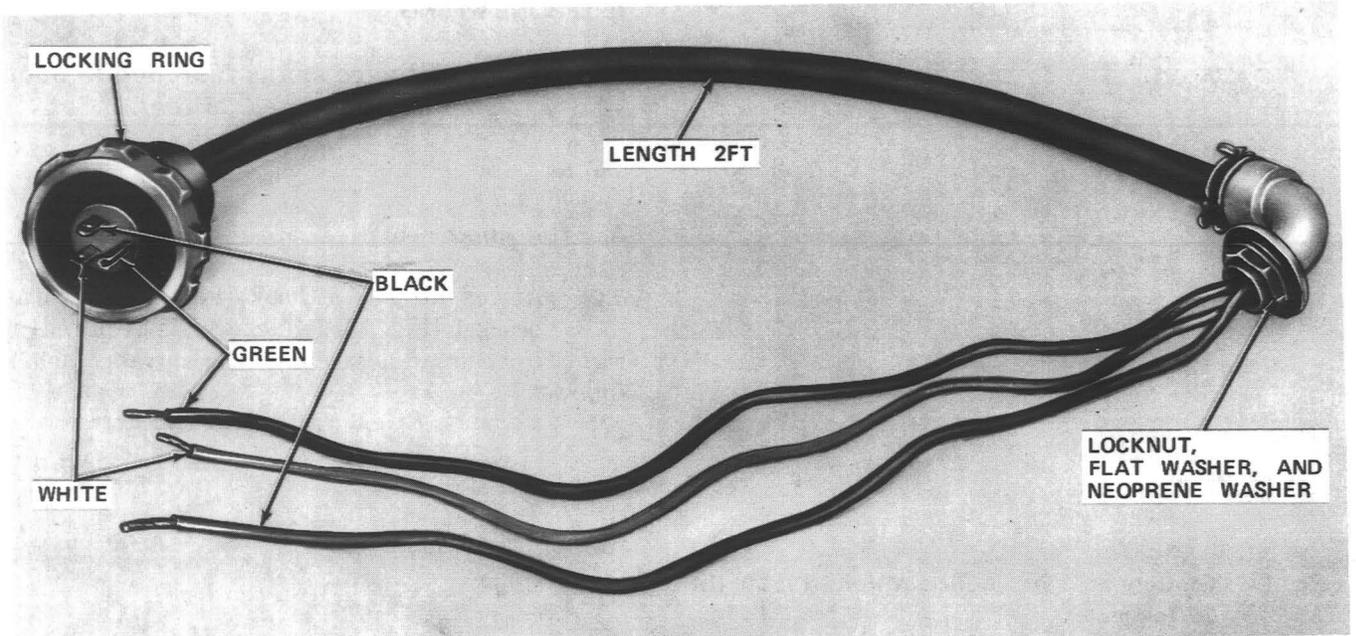

Fig. 9—KS-19580, List 30 Power Cord Assembly
- 2.24 The KS-19580, List 30 power cord assembly (Fig. 9) is available for overhead power.